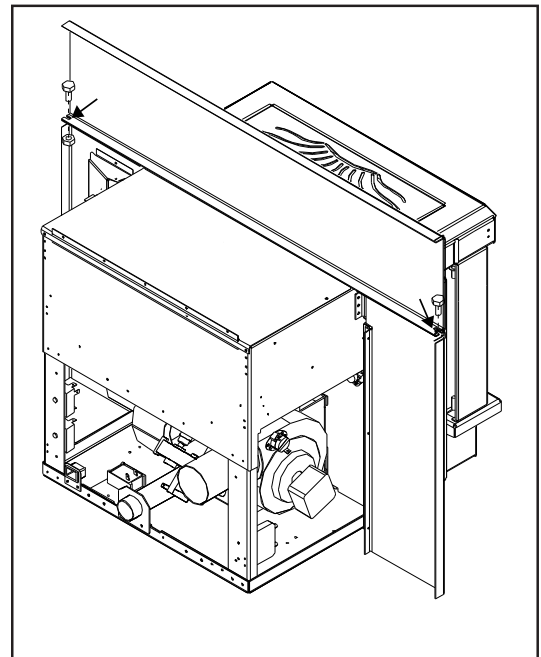

Figure 36: Assembling the Surround Panel, back view.
5. Insert each side panel anchor bolt through the top panel into the corresponding side panel holes and tighten using a  $\frac{7}{16}$ " wrench or socket (refer to Figure 36).